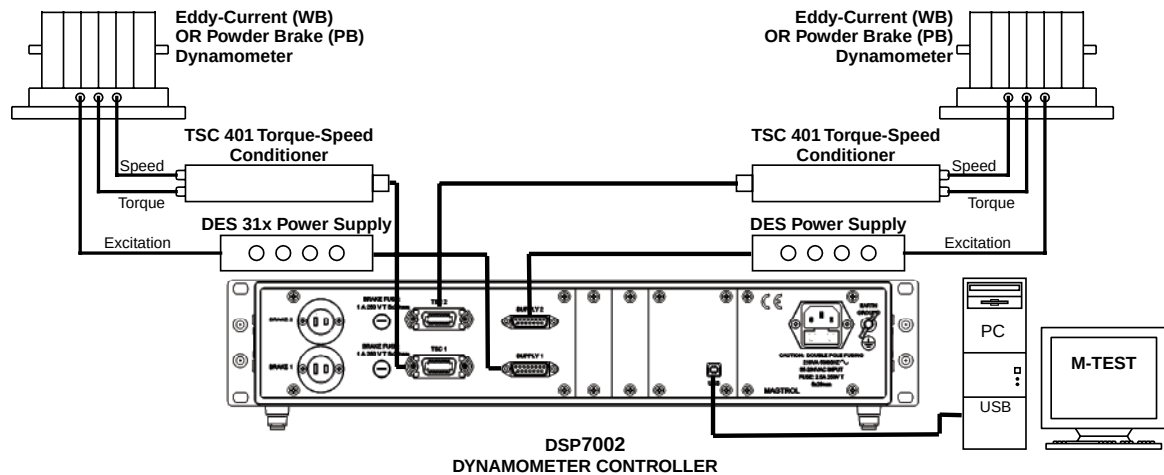

Figure 3–20 Two Eddy-Current/Powder Brake Dynamometers (Independent Setup)
- 5.a. If using an Eddy Current Dynamometer, press SHIFT. The display should appear as shown in *Figure 3–13 TSC2 Eddy-Current Setup Menu*. Press the TORQUE UNITS button and use ◀ and ▶ buttons and Decrease/Increase dial to set desired max torque. Press the SCALE P button and use ◀ and ▶ buttons and Decrease/Increase dial to set desired nominal speed. Press SHIFT 2 times to return to the setup menu. The display will appear as follows: